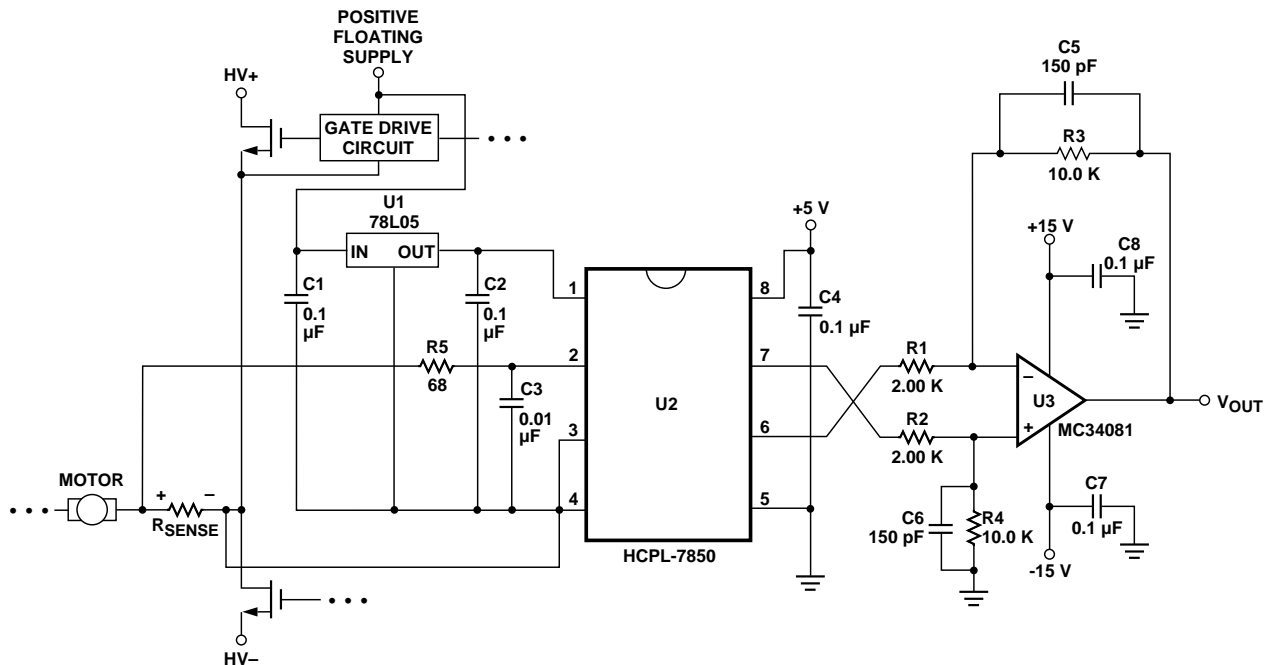

Figure 24. Recommended Application Circuit.
- CMR (also known as IMR or Isolation Mode Rejection) specifies the minimum rate of rise of a common mode signal applied across the isolation boundary at which small output perturbations begin to occur. These output perturbations can occur with both the rising and falling edges of the common mode waveform and may be of either polarity. A CMR failure is defined as a perturbation exceeding 200 mV at the output of the recommended application circuit (Figure 24). See Applications section for more information on CMR.
The recommended application circuit is shown in Figure 24. A floating power supply (which in many applications could be the same supply that is used to drive the high-side power transistor) is regulated to 5 V using a simple three-terminal voltage regulator (U1). The voltage from the current sensing resistor, or shunt (Rsense), is applied to the input of the HCPL-7850 through an RC anti-aliasing filter (R5, C3). And finally, the differential output of the isolation amplifier is converted to a ground-referenced
As shown in Figure 24, a 0.1 μF bypass capacitor (C2, C4) should be located as close as possible to the input and output power supply pins of the HCPL-7850. The bypass capacitors are required because of the high-speed digital nature of the signals inside the isolation amplifier. A 0.01 μF bypass capacitor (C3) is also recommended at the input pin(s) due to the switched-capacitor nature of the input circuit. The input bypass capacitor should be at least 1000 pF to maintain gain accuracy of the isolation amplifier.
The recommended method for connecting the isolation amplifier to the shunt resistor is shown in Figure 24. Pin 2 ($V_{\text{IN}+}$) is connected to the positive terminal of the shunt resistor, while pin 3 ($V_{\text{IN}-}$) is shorted to pin 4 (GND1), with the power-supply return path functioning as the sense line to the negative terminal of the current shunt. This allows a single pair of wires or PC board traces to connect the isolation amplifier circuit to the shunt resistor. In some applications, however, supply currents flowing through the power-supply return path may cause offset or noise problems. In this case, better performance may be obtained by connecting pin 3 to the negative terminal of the shunt resistor separate from the power supply return path. When connected this way, both input pins should be bypassed. Whether two or three wires are used, it is recommended that twisted-pair wire or very close PC board traces be used to connect the current shunt to the isolation amplifier circuit to minimize electromagnetic interference to the sense signal.
The recommended application circuit (Figure 24) includes a post-amplifier circuit that serves three functions: to reference the output signal to the desired level (usually ground), to amplify the signal to appropriate levels, and to help filter output noise. The particular op-amp used in the post-amp is not critical; however, it should have low enough offset and high enough bandwidth and slew rate so that it does not adversely affect circuit performance. The offset of the op-amp should be low relative to
To maintain overall circuit bandwidth, the post-amplifier circuit should have a bandwidth at least twice the minimum bandwidth of the isolation amplifier, or about 200 kHz. To obtain a bandwidth of 200 kHz with a gain of 5, the op-amp should have a gain-bandwidth greater than 1 MHz. The post-amplifier circuit includes a pair of capacitors (C5 and C6) that form a single-pole low-pass filter. These capacitors allow the bandwidth of the post-amp to be adjusted independently of the gain and are useful for reducing the output noise from the isolation amplifier (doubling the capacitor values halves the circuit bandwidth). The component values shown in Figure 24 form a differential amplifier with a gain of 5 and a cutoff frequency of approximately 100 kHz, and were chosen as a compromise between low noise and fast response times. The overall recommended application circuit has a bandwidth of 66 kHz, a rise time of 5.2 μs and a delay to 90% of 8.5 μs .